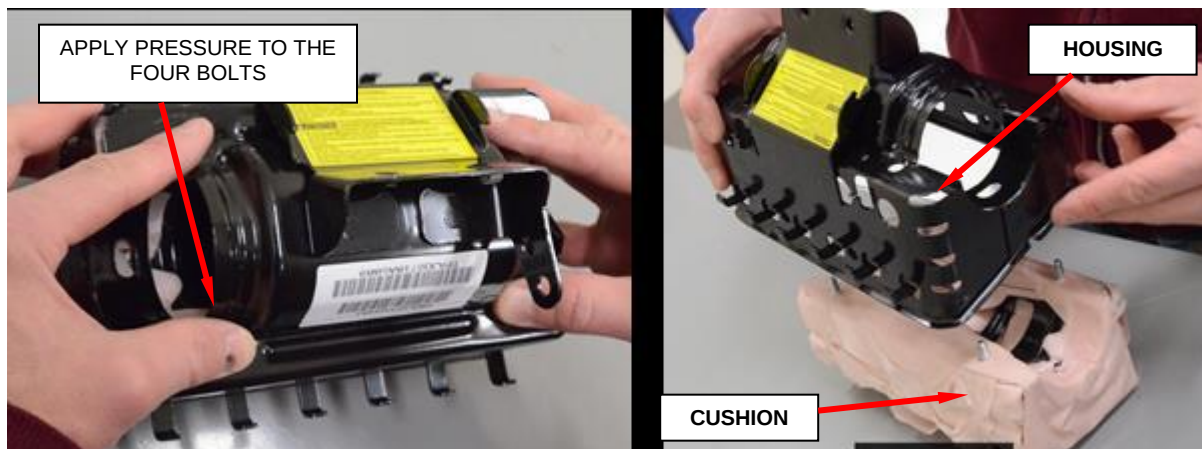

Figure 118 – Remove Airbag Cushion from Housing
- a. Slide the red Connector Position Assurance (CPA) lock on the connector toward the side of the connector (Figure 118).